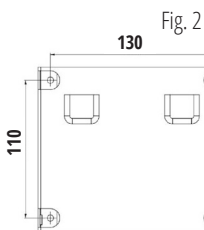

Fig. 2
STEP 1. DRILLING. Drill 4 mounting holes with a diameter of 6 mm and a depth of at least 50 mm on the wall to install the wall mount (Fig. 2).